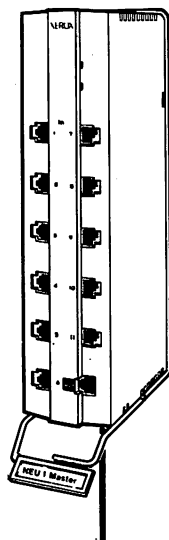

Figure 2-7. Labelling a single NEU
10. Look at Fig. 2-7 to locate the label holder on the wire mounting frame. Remove the clear plastic strip from the label holder.